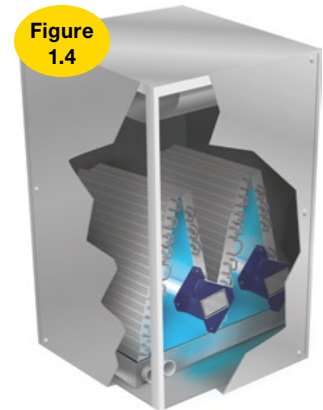

Figure 1.4
- STEP 3: Using the Scorpion's integrated magnet, attach the Scorpion to the metal "A" panel on the far side of the evaporator coil. For a "W" or "N" shaped coil, install a second Scorpion inside the second section of coil. See example image in Figure 1.4.
- For a "W" or "N" shaped coil, install a second Scorpion inside the second section of coil after drilling the 1 1/4" hole in the second panel, inserting the grommet, and securing the Scorpion. See example image in Figure 1.4.